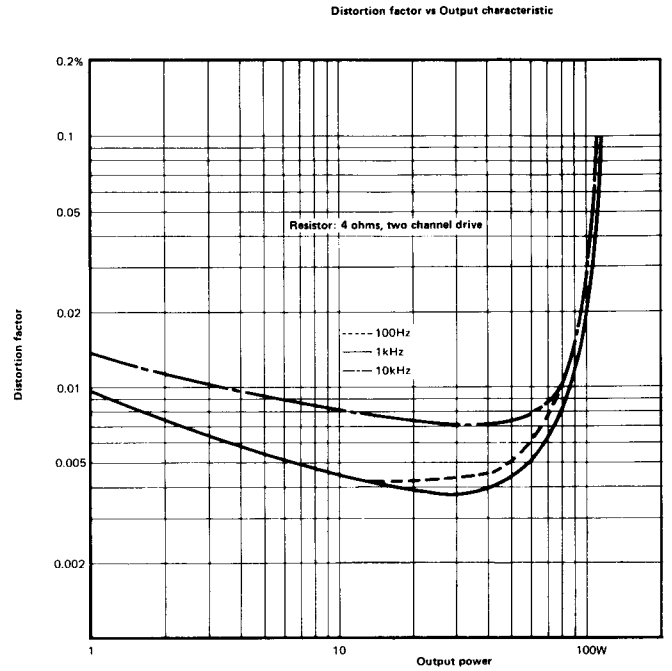

Figure 13
**MAIN AMPLIFIER CIRCUIT** (Refer to Figures 13, 14 and 15)